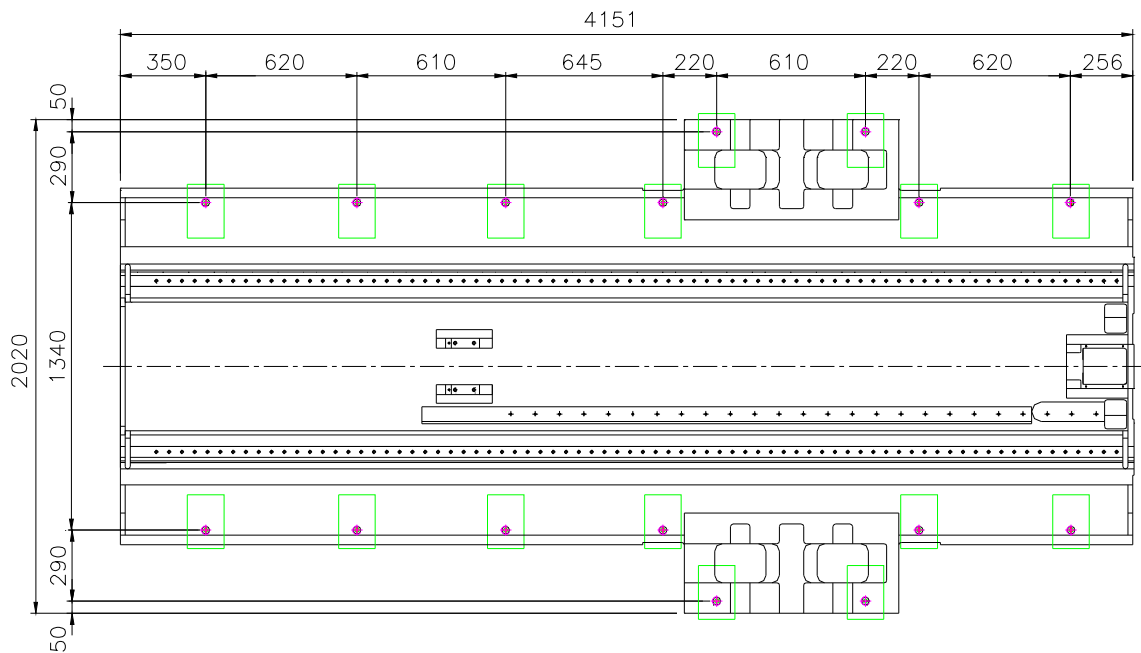

FIG. 3.6.1 FLOOR PLAN
- A. CLEAN THE REVERSE SURFACE OF THE LEVELING PADS AND THE SUPPORTING PADS. AND PLACE THE LEVELING PADS AND THE SUPPORTING PADS ACCORDING TO THE FLOOR PLAN FIG 3.6.1